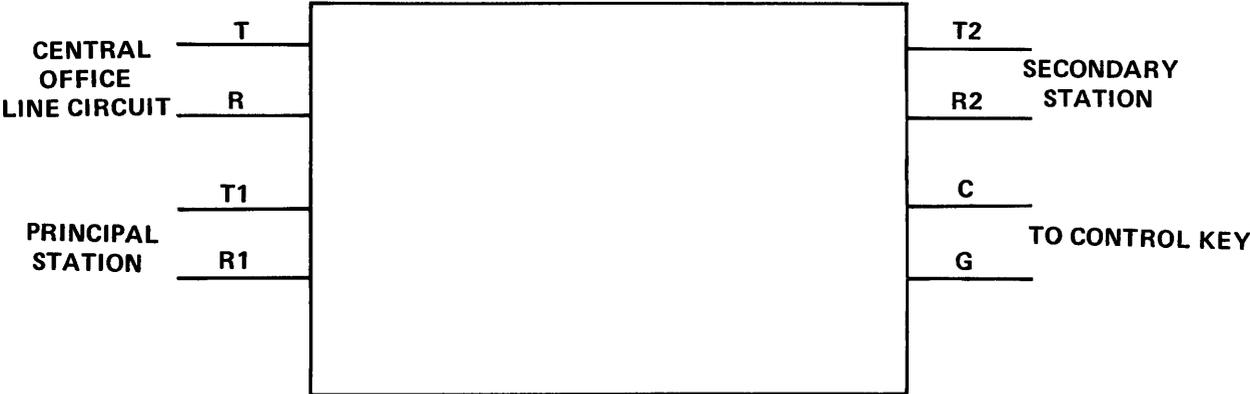

Fig. 4 – Proctor P-983 Subscriber Line Transfer Circuit
- (d) P-983 Proctor and Associates solid state subscribers line transfer circuit, see Fig. 4 for wiring.